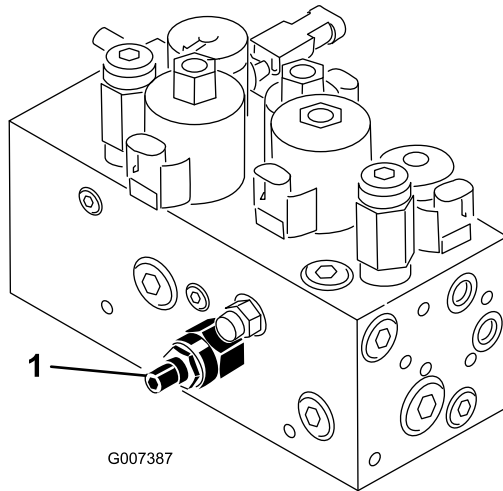

Figure 58
The cutting unit lift/drop circuit is equipped with a flow control valve (Figure 58). This valve is preset at the factory at approximately 3 turns open, but an adjustment may be required to compensate for differences in hydraulic oil temperatures, mowing speeds, etc. If an adjustment is required, proceed as follows:
1. Raise the seat and locate the flow control valve for the center pull frame (Figure 58) which is located on the side of the hydraulic manifold.